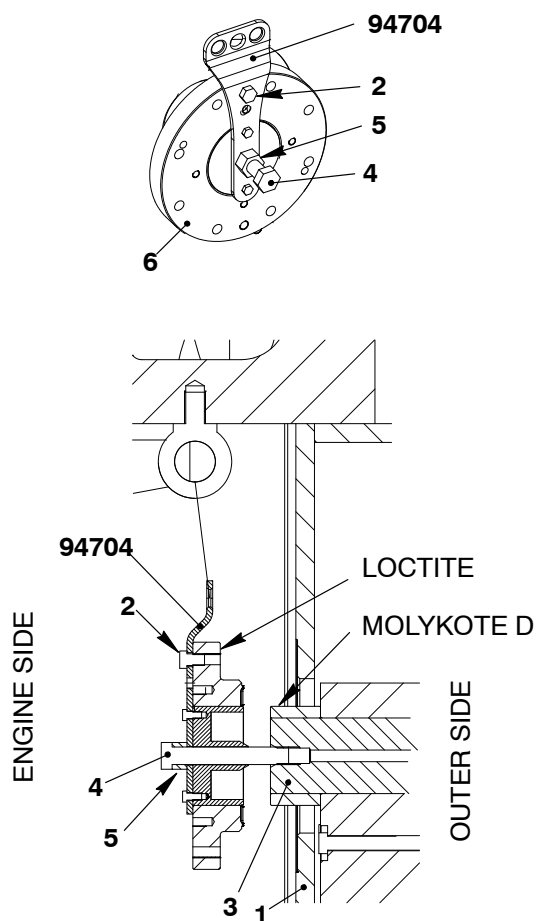
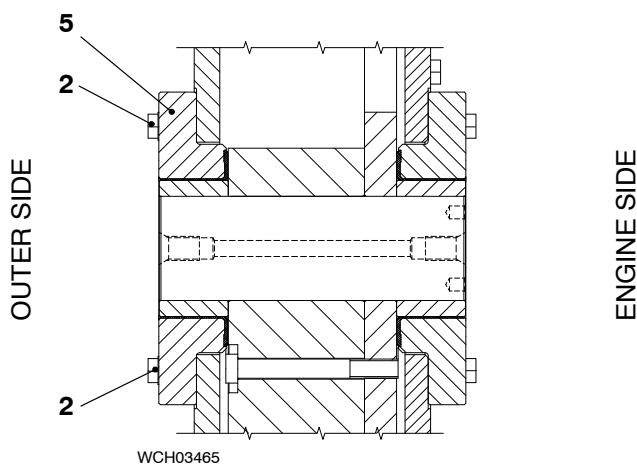

Fig. 6
Fig. 7
- 2) Attach the lifting tool (94704) to the bearing (6, Fig. 6).
- 4) Tighten the screw (2).
- 5) Operate the manual ratchet to move the bearing (6) in front of the pin (3).
- 6) Apply Loctite No. 640 to the surface of the bearing (6).
- 7) Apply Molykote D to the surface of the pin (3).
- 8) Install the screw (4) together with the nut (5) through the bearing (6) into the pin (3).
- 9) Remove the screw (2).
- 10) Align the taper pin bores with the column (1).
- 11) Turn the bearing (6) until the pin bores in the bearing are at 90° to the bores in the column (1).
- 12) Tighten the nut (5) and move the bearing (6) into the correct position on the column (1).
- Note: Operate the manual ratchet if the pin (3) is too low.**
- 14) Put four (of the eight) bolts M20x70 (2, Fig. 7) in position. Do not tighten the four bolts at this step.